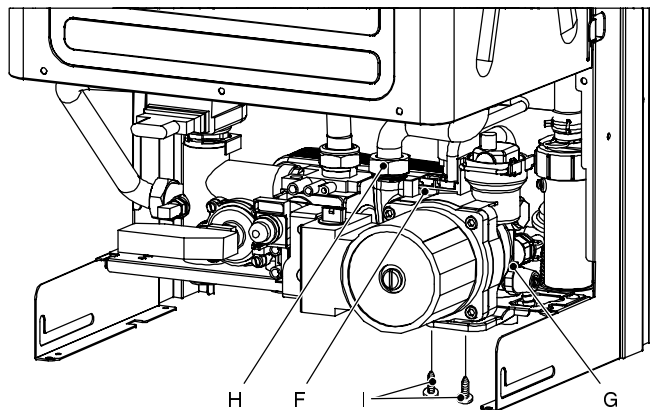

Fig. 20
With the boiler off, remove the front panel and disconnect the connector B (Fig. 20).
- 6 Remove the fork F (Fig. 20) and the connection of the capillary pipe of the pressure gauge.